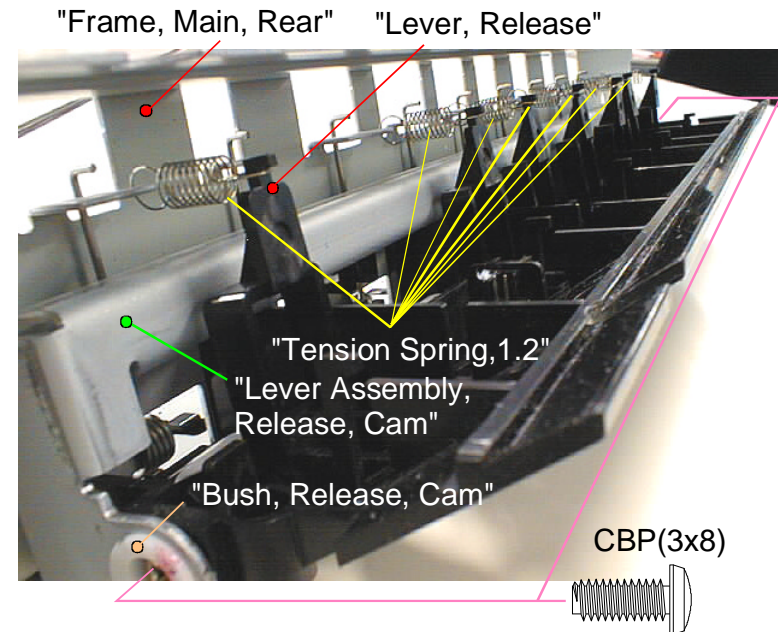

Figure 4-61. "Tension Spring,1.2", and "Lever Assembly, Release, Cam" Removal
4. Remove 2 "Bush, Release, Cam" from both left and right sides, and remove "Lever, Assembly, Release, Cam". (Refer to Figure4-61)